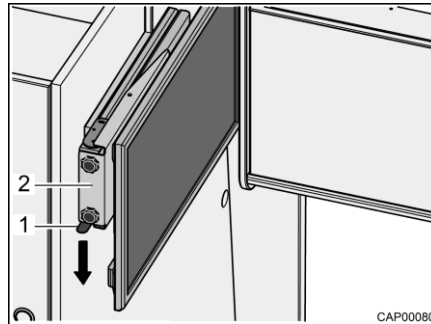

Fig. 37 Pull-out with flat screen
- Press catch spring (Fig. 37,1) downwards and pull pull-out (Fig. 37,2) with flat screen out horizontally towards the centre of the vehicle.
- Push the pull-out (Fig. 37,2) with flat screen horizontally as far as it will go. The catch spring (Fig. 37,1) engages audibly.